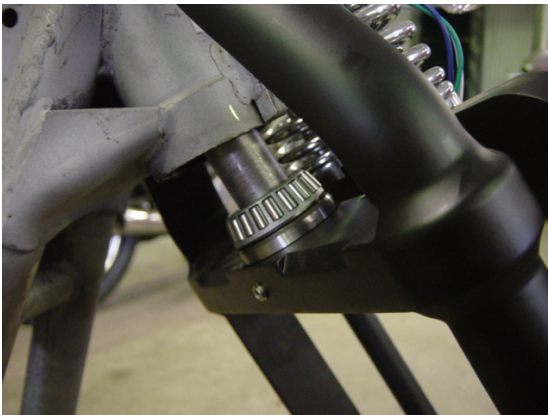
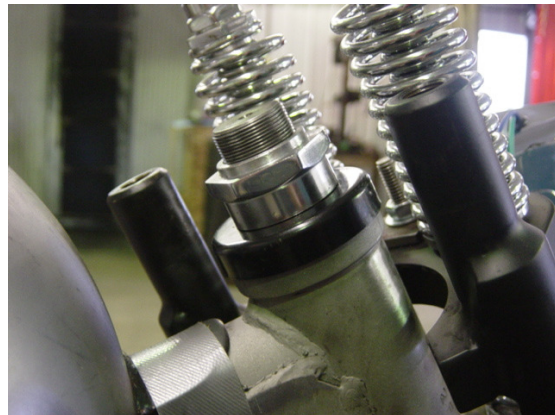

fig.3
fig.4
- 3.) The next step is to slide the stock bearing race (top race of the lower bearing set removed in step 1) onto the stem of the springer making sure that the dished out side is faced down. Slide one of the bearings onto the stem and then insert the complete assembly into the neck of the bike as shown in figure 3. Once slid together, the top bearing can be installed onto the stem followed by the stock dust shield and supplied shoulder nut, see figure 4. Be sure to apply threadlock to all fasteners.